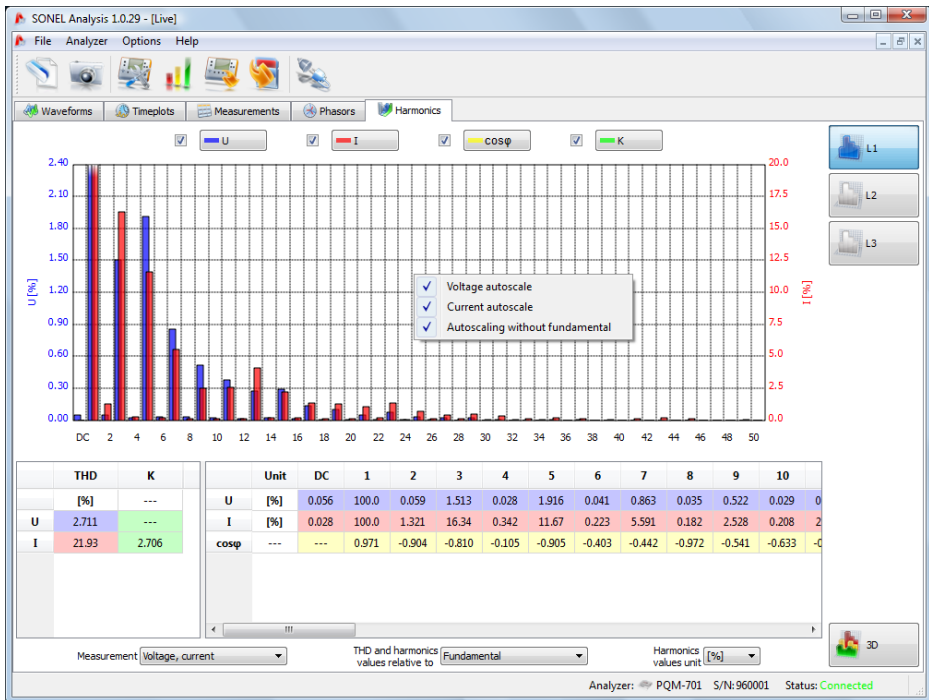

Fig. 50. Harmonics on a 2D diagram.
The harmonics tab allows viewing the harmonic values in voltage and current, active and reactive harmonics power, harmonic factors and K-factor. A typical screen is shown in Fig. 50. The displayed parameters are for one phase which is selected with the buttons on the right-hand side.
- **Do not scale to the first harmonics** – the first harmonics will be skipped during the auto-scaling; consequently, the higher harmonics bars can be quickly made higher – they usually have much lower level than the fundamental component (example shown in Fig. 50).